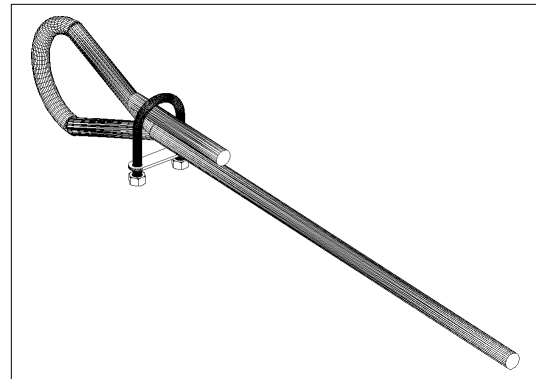

figure 4
- c. Install the lift cable by feeding it through the center hole in the brush head upright. Loop the loose end around and secure it with a cable clamp (figure 4).
CAUTION! Avoid injury or sweeper damage. Install cable clamps as shown in figure 4; otherwise the cable could slip, possibly damaging the sweeper or injuring the operator.